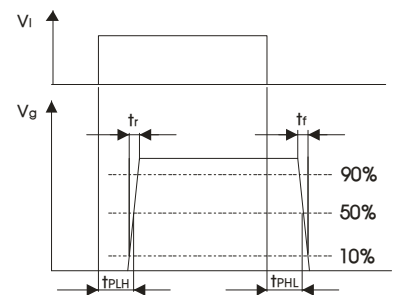

Fig.3: Signal delay of Overcurrent/Short-circuit
2) Input and output delay time, rise time and fall time characteristics are defined in Fig.3.